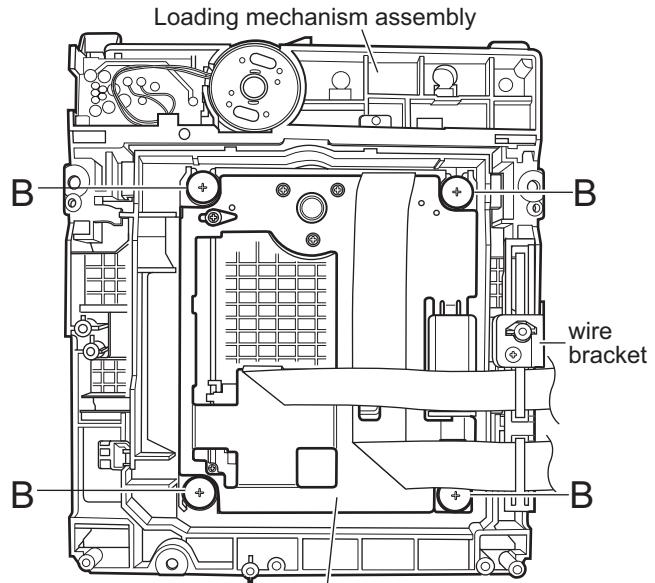

Fig.7
3.2.2 Removing the traverse mechanism assembly (See Figure 7)